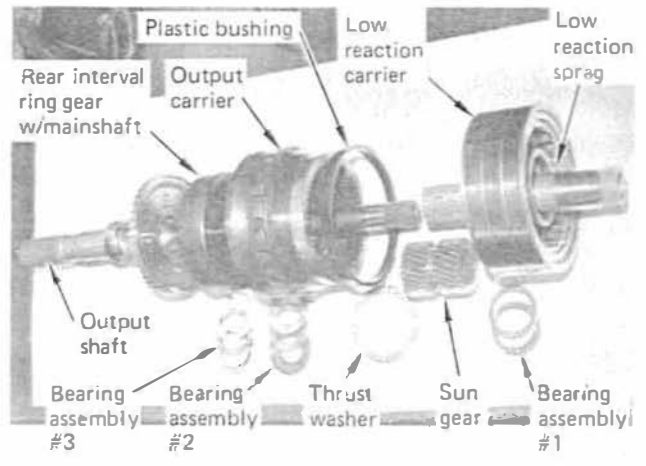

FIGURE 25
STEP 1. Slide reaction carrier off the planetary assembly. A bearing assembly will come off at the same time. (See Fig. 25) There will be a plastic or metal thrust washer between the two carriers. There will be a plastic bushing on the outside of the rear carrier. Remove the low reaction overrunning clutch from the carrier. There are two types: '64 - '65 model 36-element sprag assembly and the '66 and later model 16-element roller clutch assembly. Roller elements can be removed from the cage for cleaning. Do not remove elements from the dog-type clutch. Put the overrunning clutch parts in the oil pan.